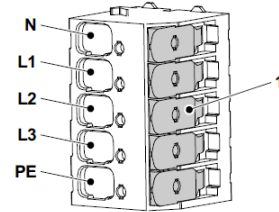

Figure 7: Terminal clamps of the power supply unit
8. Connect the individual wires of the power supply cable as shown in the diagram (Fig. 7). If a single-phase supply voltage is used, it must be connected to L1. Terminals L2 and L3 are not used for a single-phase connection.
**Note:** This is a tool-free terminal strip. Folding back the clamping lever (Fig. 7/1) opens the terminal so that the respective individual wire can be inserted. The respective clamping lever is then shut to secure the respective individual wire. Folding back more than one clamping lever at a time must be avoided.